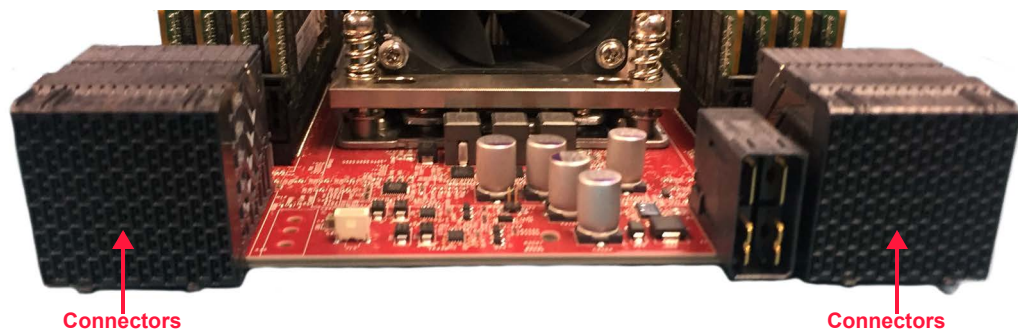

Figure 4.18 Server module connectors
1. Become familiar with the server module connectors. The connectors must align properly so that the module smoothly inserts into the I/O option slot on the rear of the enclosure. Refer to Figure 4.18 for a close-up view of the server module connectors.